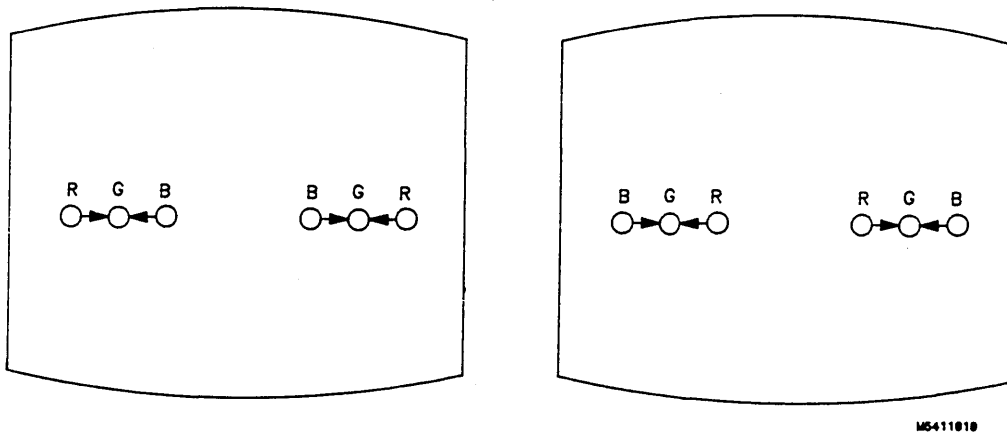

Figure 4-24. H.TILT Adjustment.
- Adjust H.TILT (RV806), located on bottom PC board, for coincidence of red, green, and blue at right and left sides of screen (see figure 4-24).